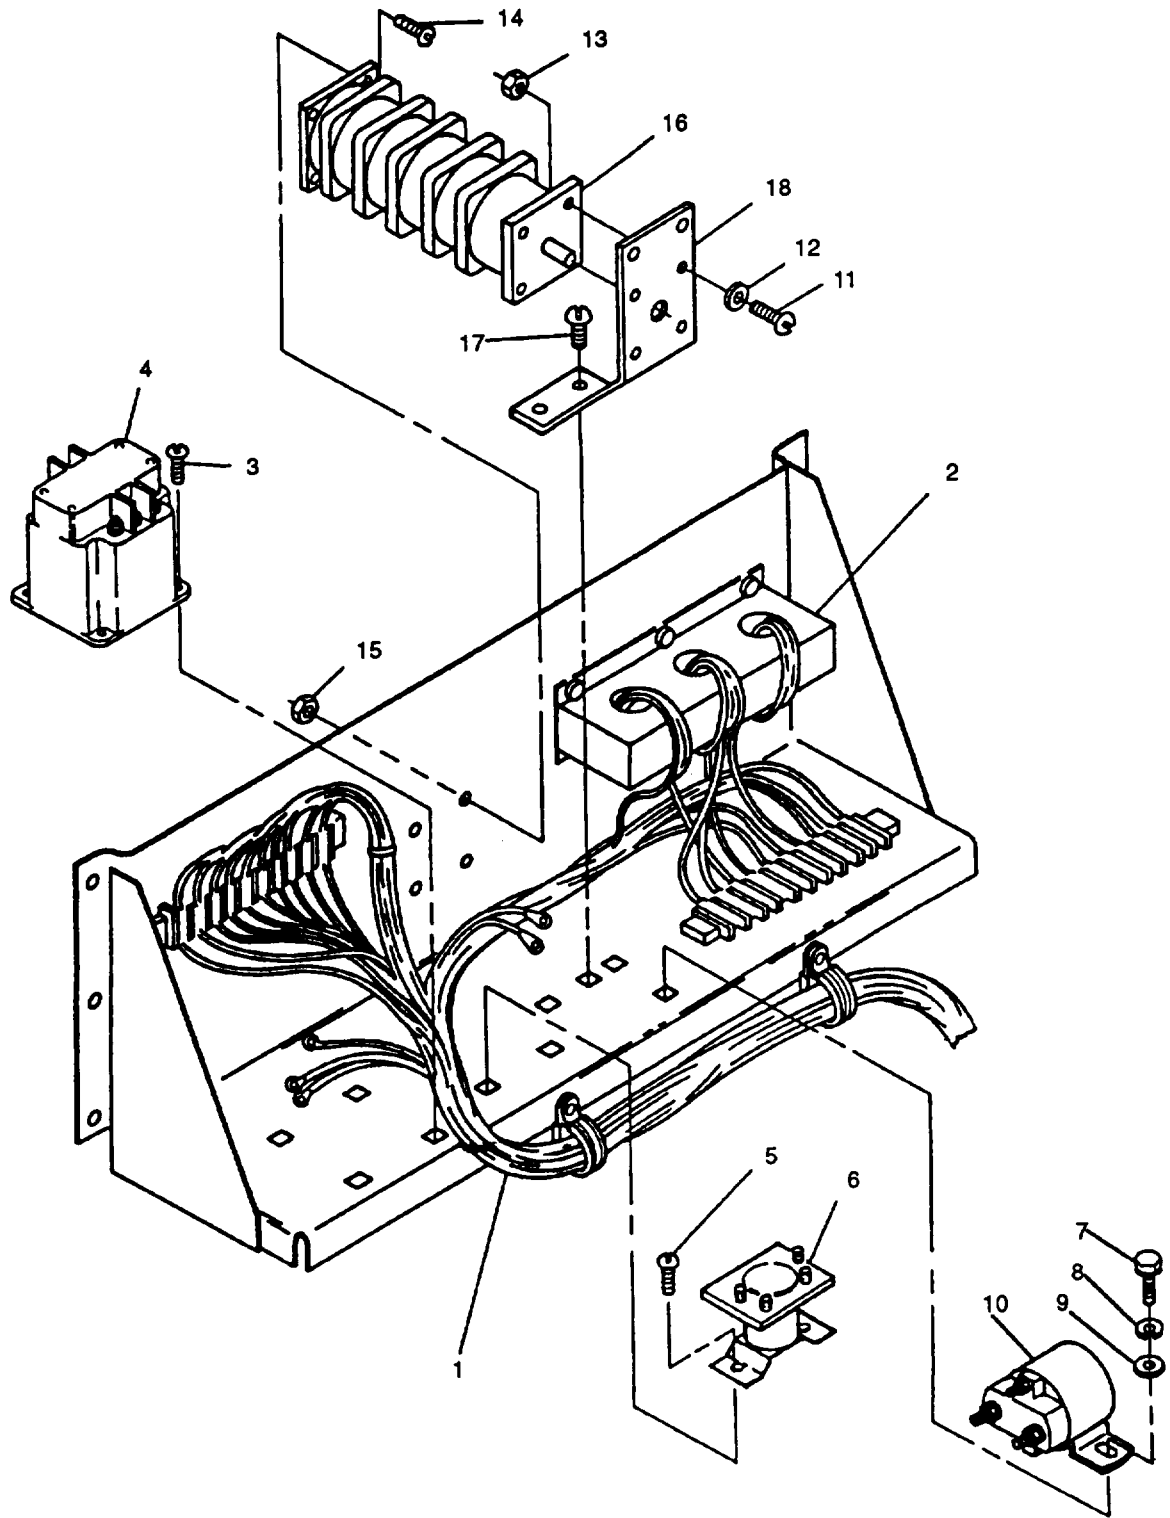
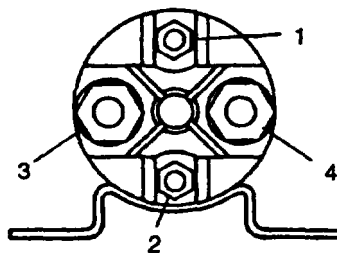

FIGURE 2-16. Output Box Assembly
FIGURE 2-17. Pre-Heat Relay Terminals
- d. Inspect wiring harness (1, FIGURE 2-16) for burned, bent, corroded, and broken terminals.
- c. Inspect current transformer (2, FIGURE 2-16) for cracks, loose or stripped threads, and evidence of overheating.
- c. Tag and disconnect current transformer (2, FIGURE 2-16) electrical leads from secondary terminals.
- d. Inspect AC circuit interrupter relay (4, FIGURE 2-16) for dents, cracks, and loose or stripped studs.
- d. Tag and disconnect electrical leads to AC circuit interrupter relay (4, FIGURE 2-16).
- e. Remove screws (3) and AC circuit interrupter relay (4) from output box.
- a. Install AC circuit interrupter relay (4, FIGURE 2-16) with screws (3) in output box assembly.
- d. Inspect cranking relay (6, FIGURE 2-16) for dents, cracks, and loose or stripped studs.
- d. Disconnect and tag electrical leads to cranking relay (6, FIGURE 2-16).
- e. Remove screws (5) and cranking relay (6) from output box assembly.
- d. Tag and disconnect wires from terminals X1, X2, and A2 of cranking relay (6, FIGURE 2-16).
- a. Install cranking relay (6, FIGURE 2-16) with screws (5) in output box assembly.
- d. Inspect preheat relay (10, FIGURE 2-16) for dents, cracks, stripped studs, and missing parts.
- d. Tag and disconnect electrical leads from preheat relay (10, FIGURE 2-16).
- e. Remove bolts (7), lockwashers (8), washers (9), and relay (10) from output box.
- d. Tag and disconnect wires from preheat relay (10, FIGURE 2-16) terminals 1, 2 and 3. See FIGURE 2-17 for terminal positions.
- a. Install preheat relay (10, FIGURE 2-16) in output box with bolts (7), lockwashers (8), and washers (9).
- d. Inspect voltage reconnection switch (16, FIGURE 2-16) for cracks, missing parts, and loose hardware.
- d. Tag and disconnect electrical leads to voltage reconnection switch (16, FIGURE 2-16).
- e. Remove screws (11) and (14), washers (12), nuts (13) and (15), and voltage reconnection switch (16) from output box assembly.
- f. Remove screws (17) and mounting bracket (18) from output box assembly.
- a. Install mounting bracket (18, FIGURE 2-16) with screws (17) in output box assembly.
- b. Install voltage reconnection switch (16) in output box assembly and secure with screws (11) and (14), washers (12), and nuts (13) and (15).